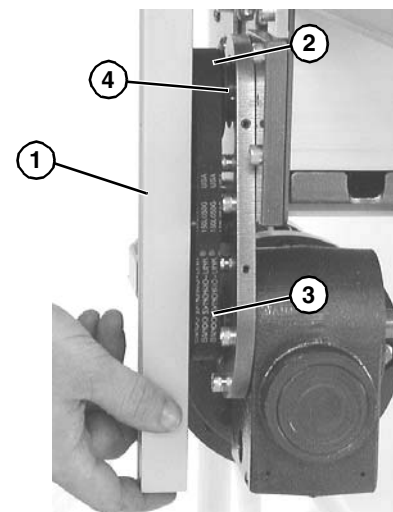

Figure 10
- Using a straight edge (**Figure 10, item 1**), align driven pulley (**Figure 10, item 2**) with drive pulley (**Figure 10, item 3**). Tighten driven pulley set screws (**Figure 10, item 4**).